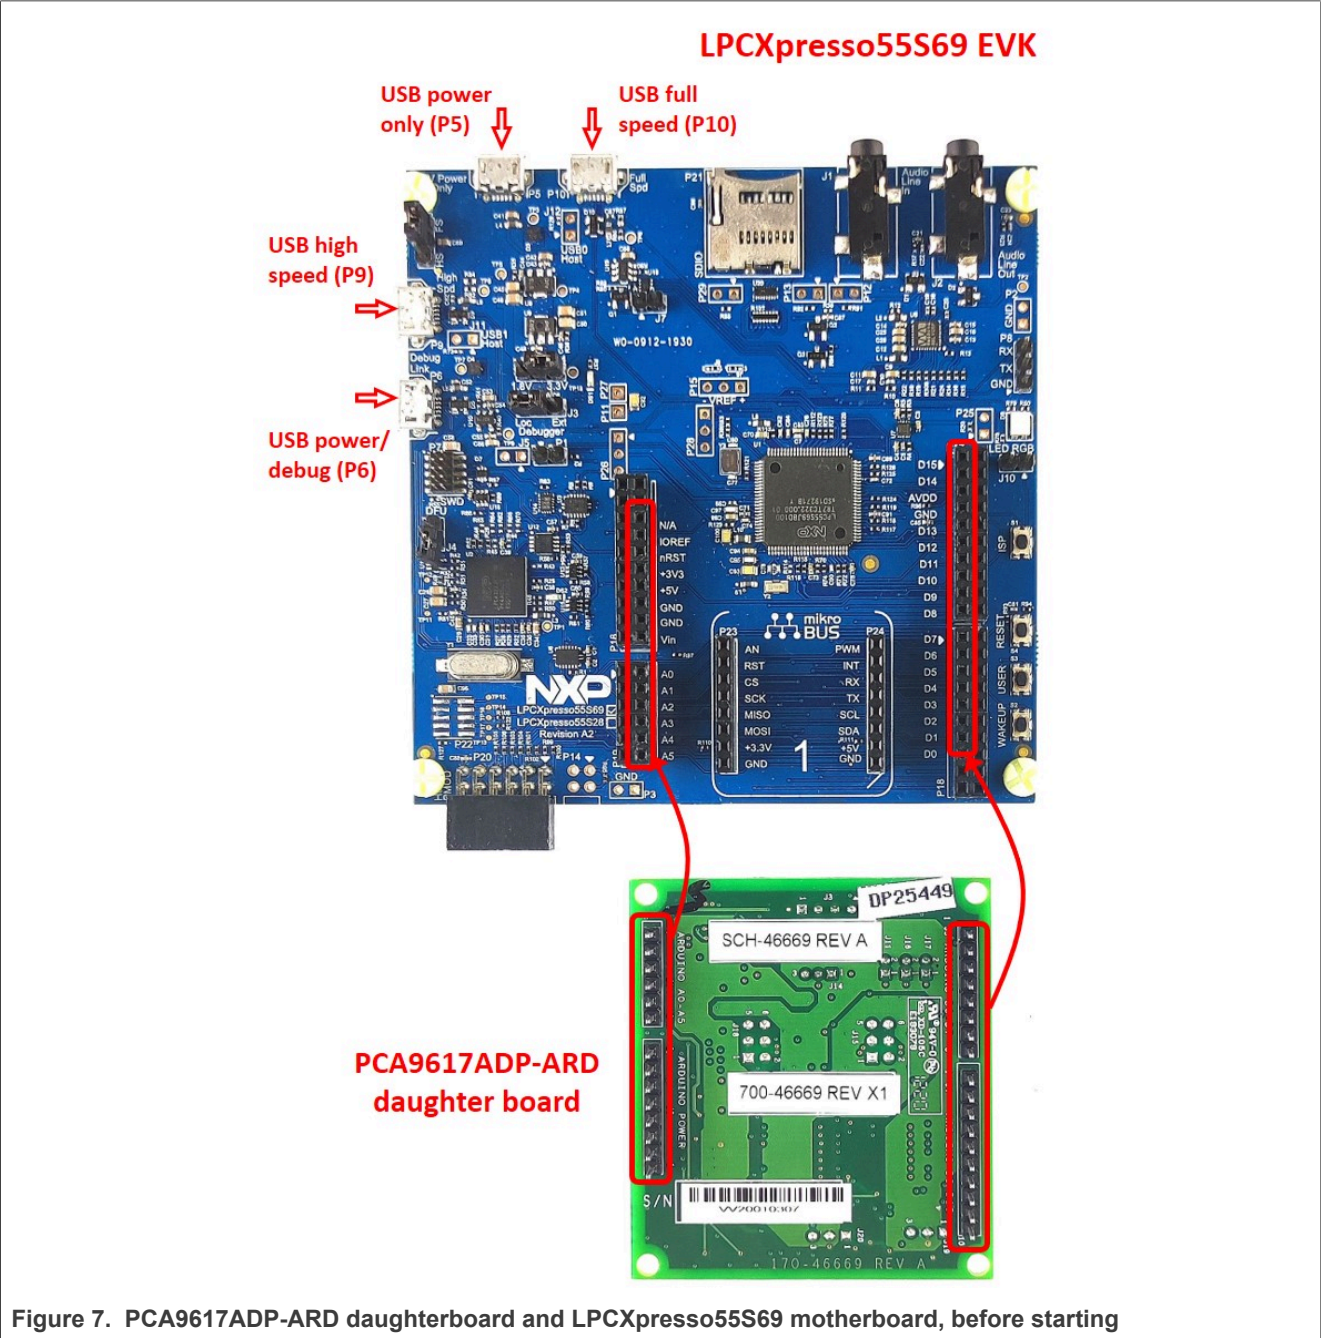

Figure 7. PCA9617ADP-ARD daughterboard and LPCXpresso55S69 motherboard, before starting
Figure 7 shows the required hardware for operation of the PCA9617ADP-ARD and LPCXpresso55S69 EVK board. This configuration consists of:
The following steps describe how to assemble, program, and operate the configuration shown in Figure 7.
1. Insert the PCA9617ADP-ARD daughterboard to P16 – P19 connectors located on LPCXpresso55S69 development board (see the marked pins of P16 – P19, Figure 7);